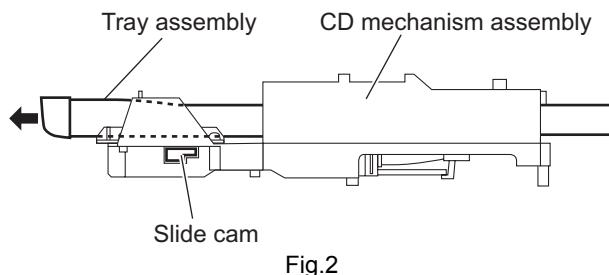

Fig.2
(See Fig.2 and 3)
- (1) Press slide cam and pull out the tray assembly to direction of the arrow from right side of CD mechanism assembly. (See Fig.2)